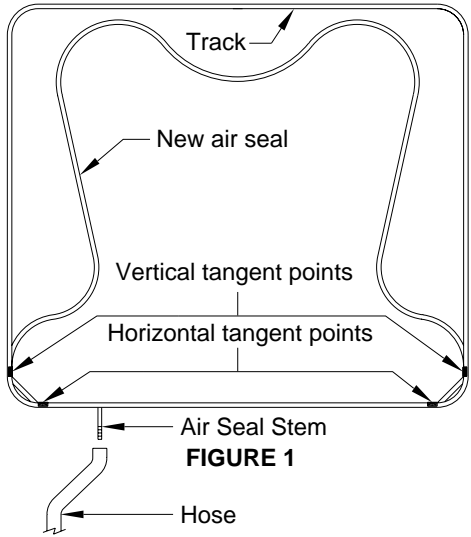

FIGURE 1
11. Install seal along bottom to tangents of each bottom corner. Snap into place (see DETAIL E & FIGURE 1).
13. Stretch seal across corner and stake down at the vertical tangent points. Note: Seal must go across corner not into corner. Failure to do so can cause a buckle in corner and no seal contact with room (see FIGURE 1).